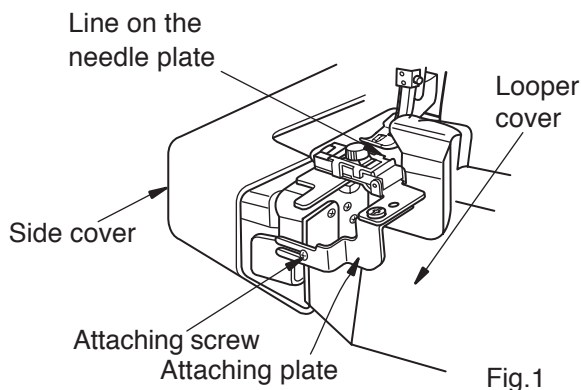

Fig.1
1. To install the elastic gathering attachment. (Fig.1)